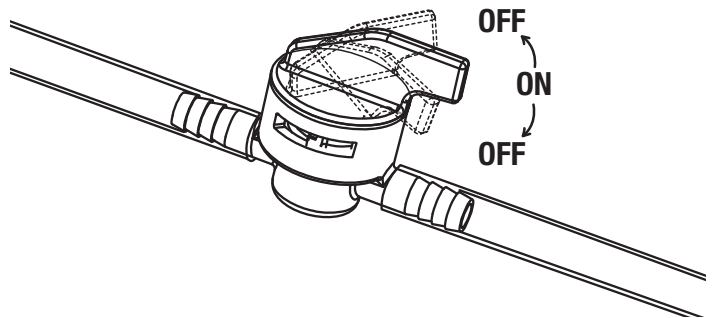

Fig. 15
5. Please refer to Fig. 15 for the “OFF” and “ON” positions of the water-hose valve.